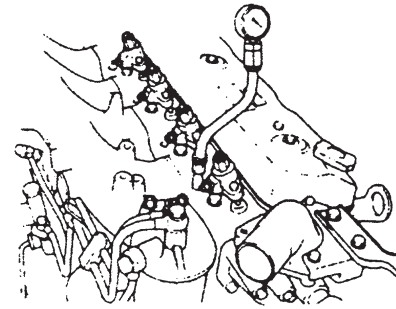

Fig.1-11
1.4.3 Cylinder pressure (See Fig 1-11)